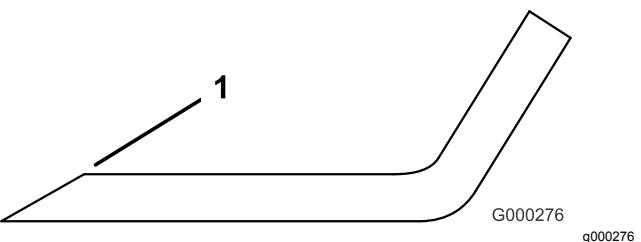

Figure 106
1. Use a file to sharpen the cutting edge at both ends of the blade (Figure 106).